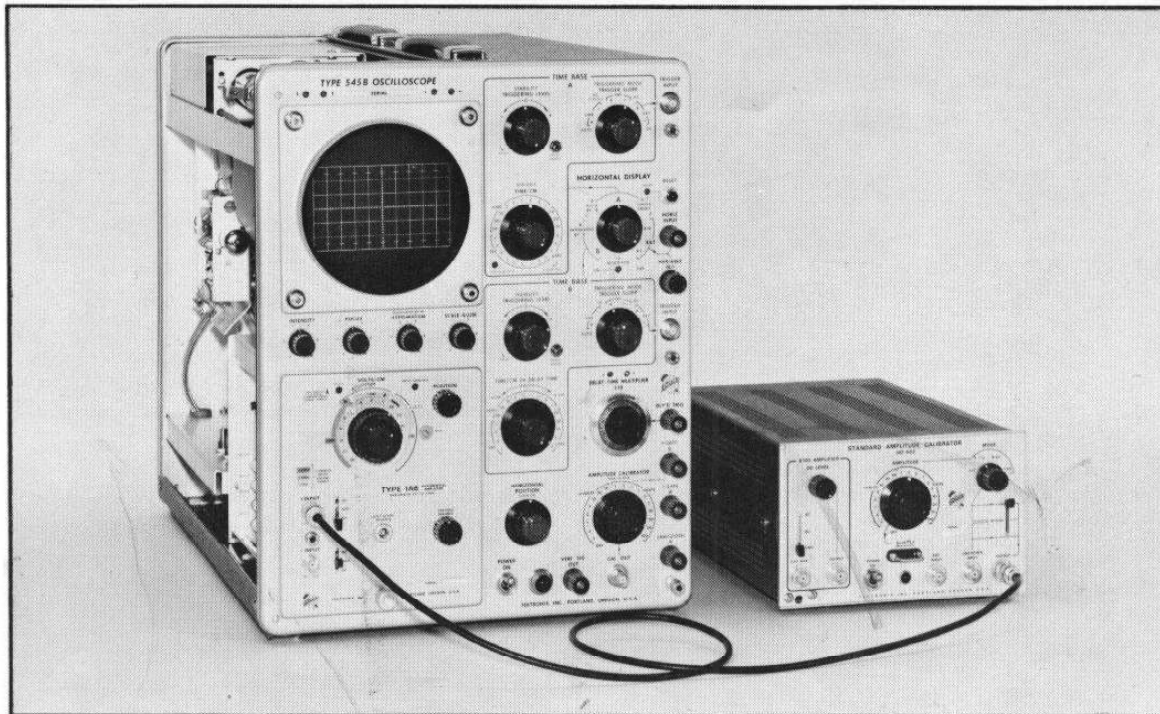

Fig. 6-9. Equipment setup for step 8.
- a. Equipment setup is shown in Fig. 6-9.